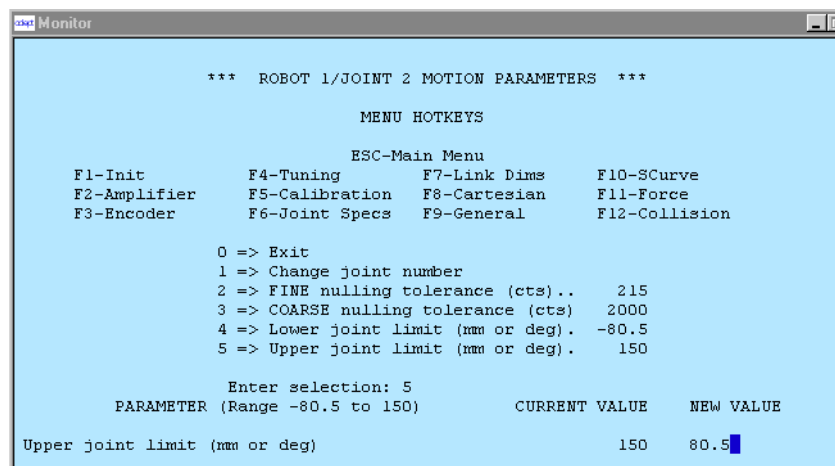

Figure 6-26. Joint 2 Menu - Upper Limits
- In the next menu, select option 5=> upper joint limit. See Figure 6-26.